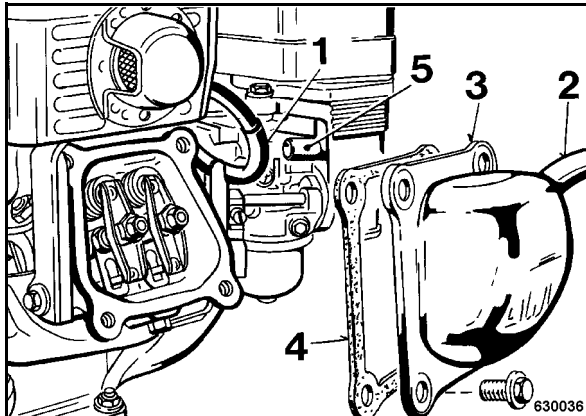
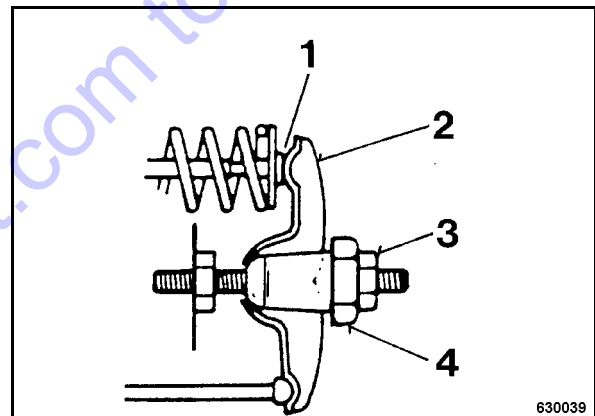

Fig. 49
Fig. 52
- Pull off spark plug socket 1 (Fig. 49).
- Pull off ventilation hose (2).
- Remove valve cover (3) with gasket (4).
- Check the valve clearance (1) (Fig. 52) with a feeler gauge.
- In order to adjust the valves hold the hexagon nut (4) on the rocker lever and loosen the counter nut.
- Adjust hexagon nut (4) on the rocker arm so that the feeler gauge fits between rocker arm and valve shaft with noticeable resistance after retightening counter nut (3).
- Assemble the valve cover (3) (Fig. 49) with a new gasket and tighten it evenly.
- Push the ventilation hose (2) into the socket (5).